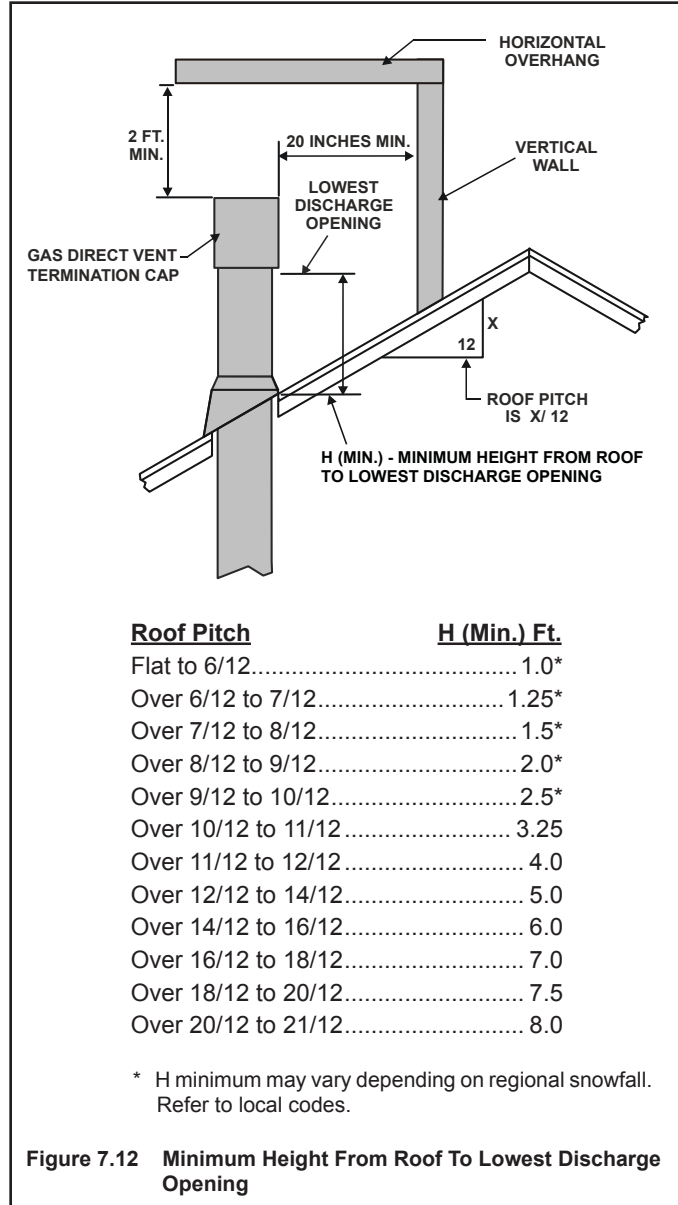

Figure 7.12 Minimum Height From Roof To Lowest Discharge Opening
- See minimum vent heights for various pitched roofs (Figure 7.12) to determine the length of pipe to extend through the roof.